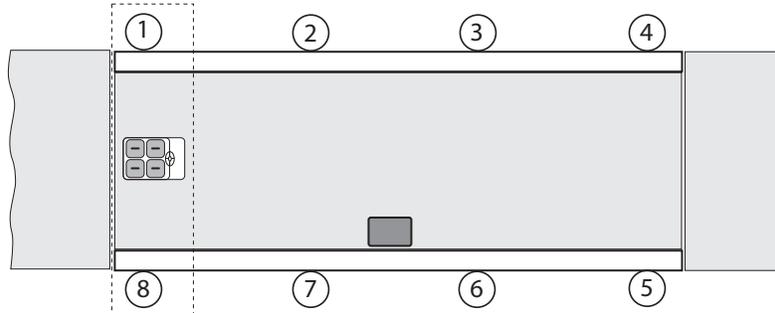

Figure 7-4. Trimming Paired Section 1:8
1. Park the loaded weight cart in the middle of the scale and directly over an imaginary line connecting an end pair of cells (1 and 8 in Figure 7-4); record the indicator reading